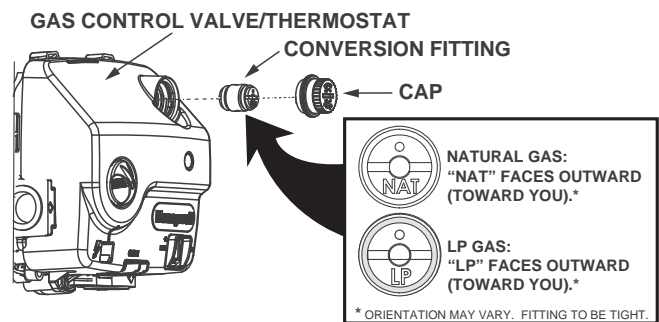

FIGURE 6.
4. Make sure both the conversion fitting (figure 6) and the manifold burner assembly (see door label) are for the type of gas supplied to your home.
1. Remove the cap (shown in Figure 6).
of the fitting. "LP" must face outward (toward you.) See Figure 6. If "NAT" faces outward, repeat step 2.
- b. NATURAL GAS: If you are converting the unit to use natural gas, verify that "NAT" is marked on the exposed end of the fitting. "NAT" must face outward (toward you.) See Figure 6. If "LP" faces outward, repeat step 2.